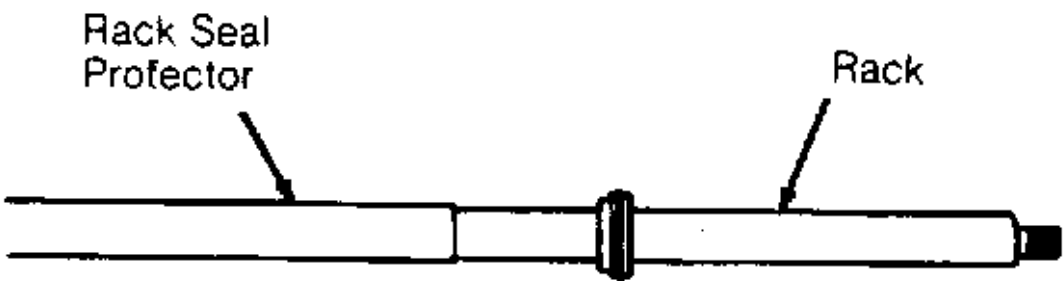

Fig. 4: Installing Rack Seal Protector (Festiva)
2. Install bushing on rack. Place Rack Seal Protector (T87P-3504-H) on rack. See Fig. 4 . Install rack. Remove rack seal protector. Insert rack retaining wire through slot and into bushing hole. Install retaining wire using Outer Box Torque Adapter (T88C-3504-CH).